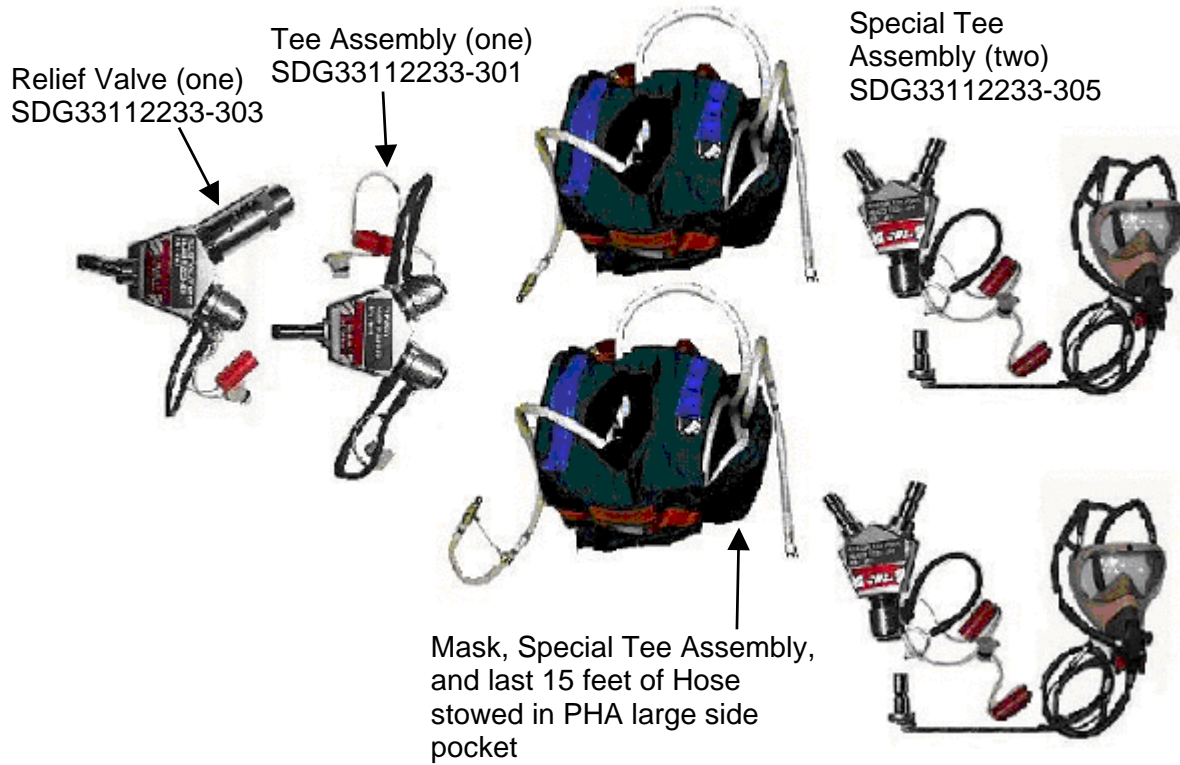

Figure 2.- 60-ft PHA Bag Configuration.
3.1 Configure 60-ft PHA Bags as shown in Figure 2.